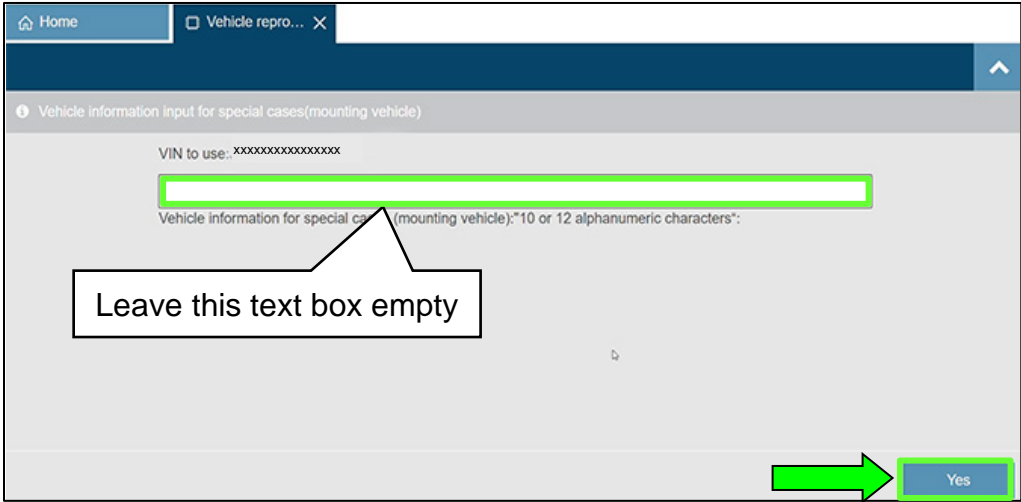

Figure 10
- 16. Select **Yes** without entering anything into the text box (Figure 10).